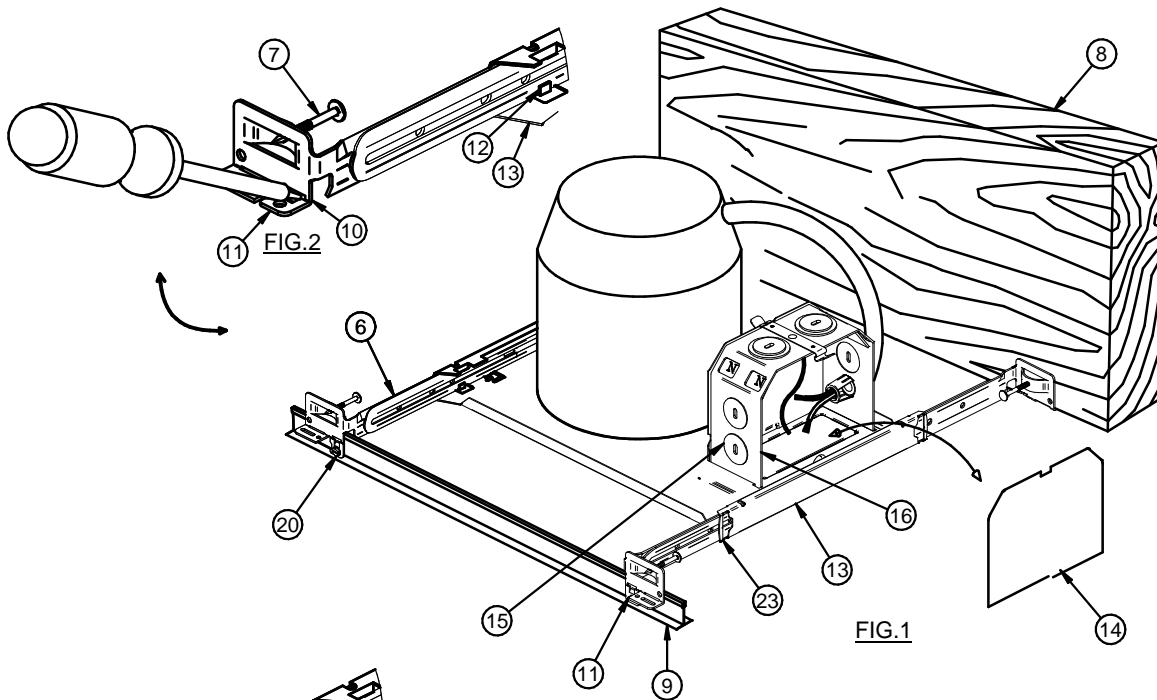
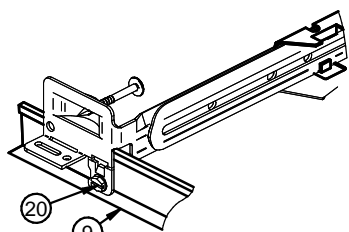

FIG. 1
FIG. 2
1. For Wooden Joists: Use the Centering Notches (4) located on the Plaster Frame to position the Fixture. Extend the Bar Hangers (6), use joist alignment tabs to locate fixture and hammer the 4 Nails (7) into Joists (8) (Fig. 1). Drive additional nails through holes in Bar Hanger for alternate support if required (Fig. 2).